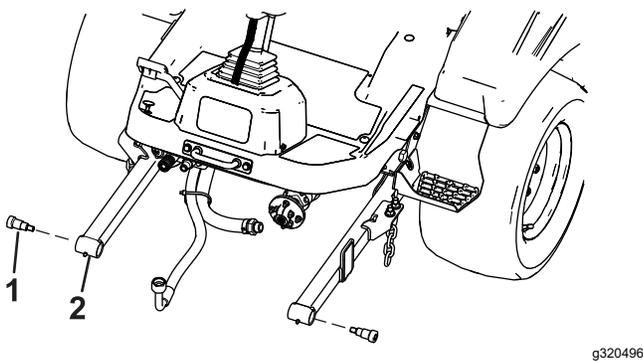

Figure 10
1. Remove the shoulder bolts from the machine lift arms (Figure 10). Refer to the *Service Manual* for removing the bolts.